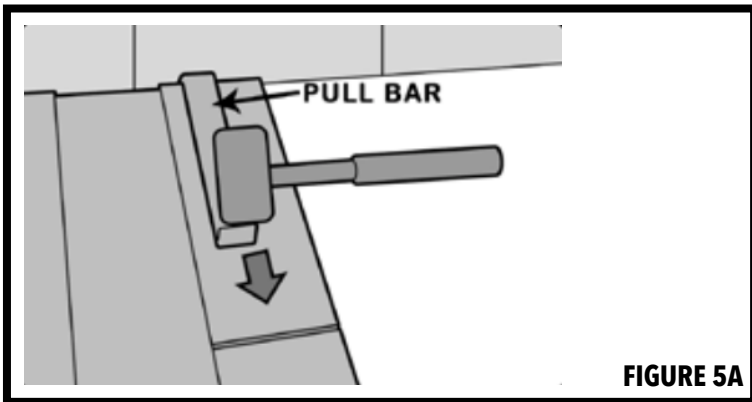

FIGURE 5A
11. Sharkplank® LVT Planks are unique in that in difficult areas they can be installed with a pull bar or tapping block and rubber mallet. Use of a pull bar and rubber mallet to lock the joints together in the last row may be necessary. Always use a pull bar on the cut edge of the plank. Factory edges can be damaged if the pull bar is used directly against them (Refer to Figure 5A and 5B).
(Refer to Figure 5A and 5B)